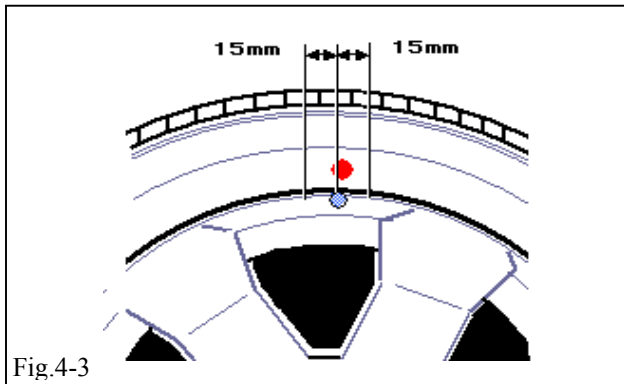

Fig.4-3
- (1) The red dot on tire and blue sticker on wheel must be aligned to within +/- 15 mm center to center. (Fig. 4-3)